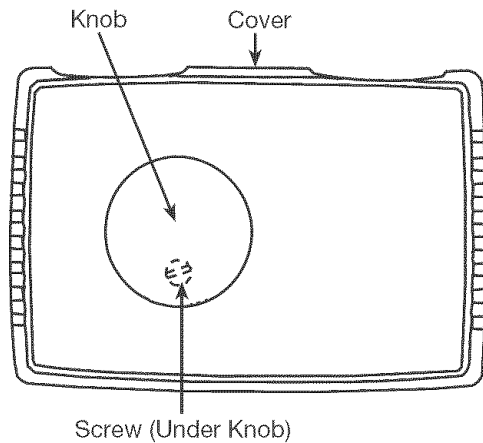

Fig. 12
5. Remove the humidistat knob by gently pulling straight out. Remove the cover screw and the cover (Fig. 12).